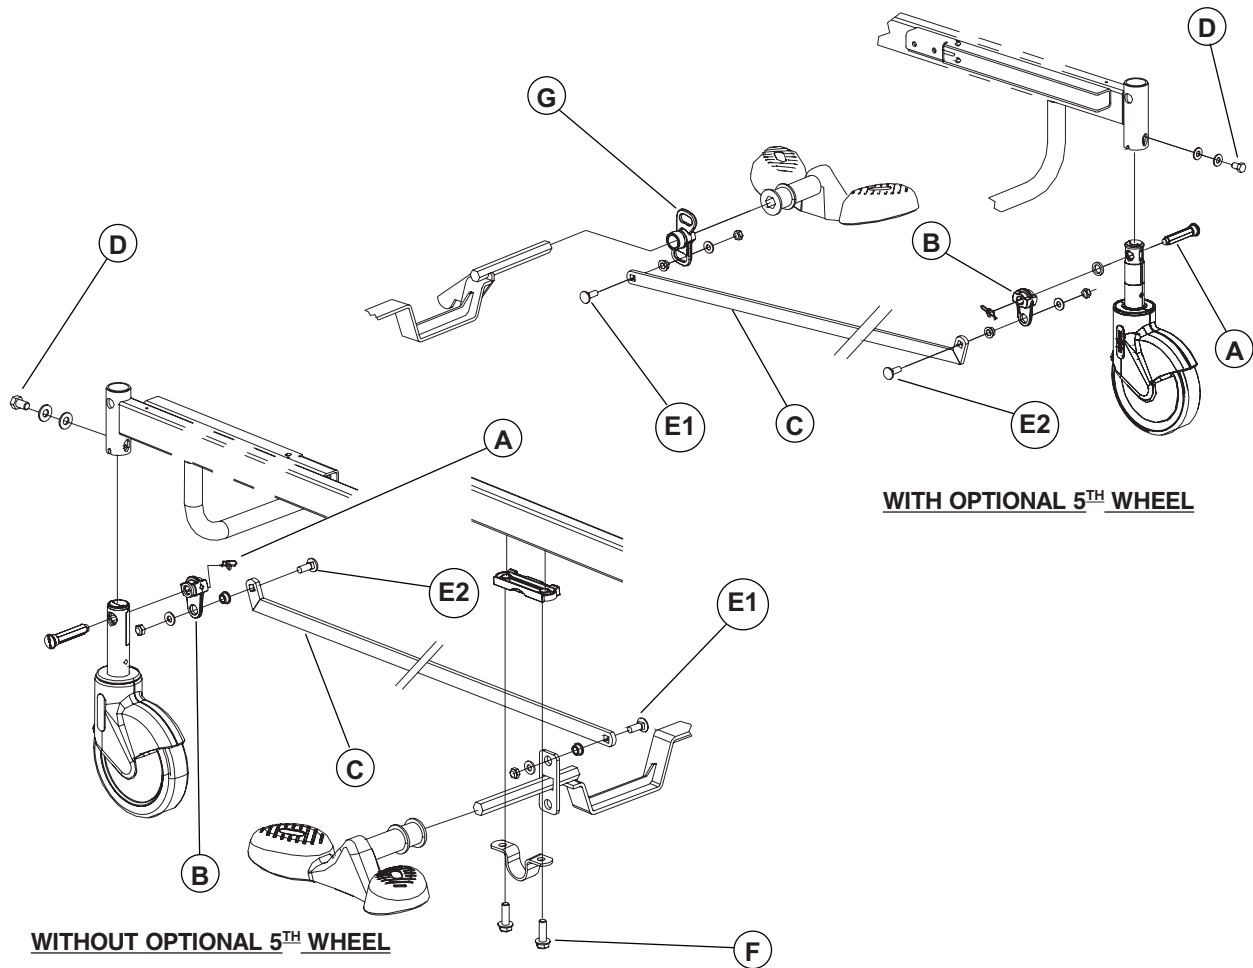

Figure 4.4B
4. Using the 1/2" socket wrench, remove the two bolts (A) holding the 5th wheel support (optional) or the lever support (F, figure 4.4B, (without 5th wheel option) page 61) on the side of the defective pedal and lay the support down. Keep the molded spacer (B).
4. Using the 1/2" wrench, remove the two nuts, washers, shoulder spacers and bolts (E1, figure 4.4B, page 61) linking the end of the brake rod to the locking levers, on the side of the pedals. If the optional four-wheel brake system is present on the bed, also remove the fasteners linking the end of the two other brake rods to the same locking levers.
5. Using the 1/2" socket wrench, remove the four bolts (A) holding both 5th wheel supports to the base. Keep the molded spacers (B). Remove the assembly.
7. Remove and keep the two locking levers (G, figure 4.4B, page 61).
Unless otherwise indicated, refer to figure 4.4B on page 61 for the following replacement procedure.